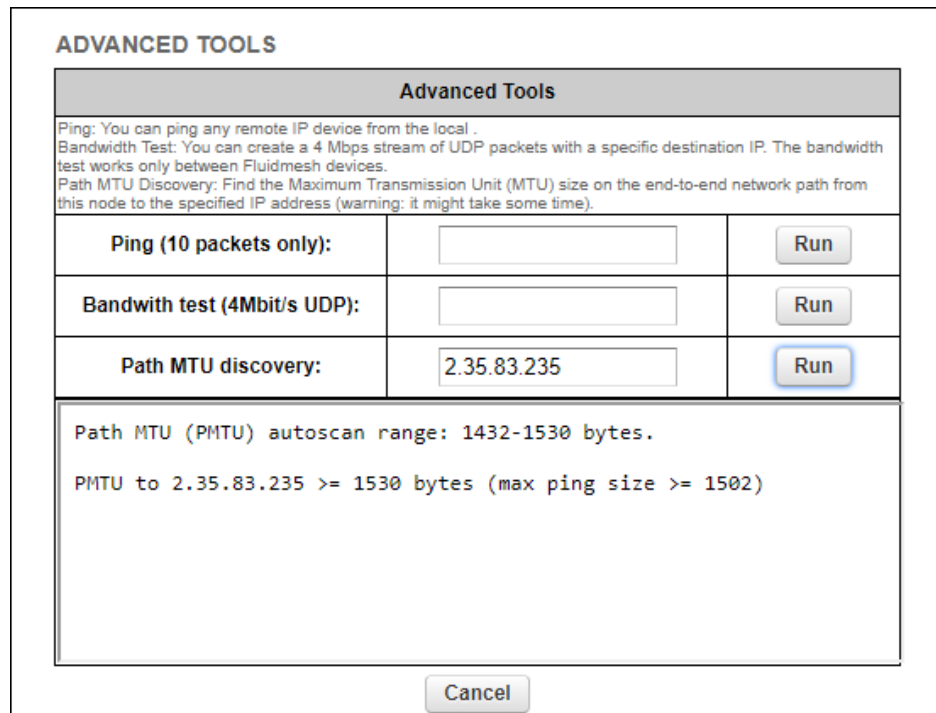

Figure 31. Advanced Tools window (Path MTU test tool)
2. Enter the IP address of the second unit in the **Path MTU discovery** field (Figure 31 \(page 101\)).